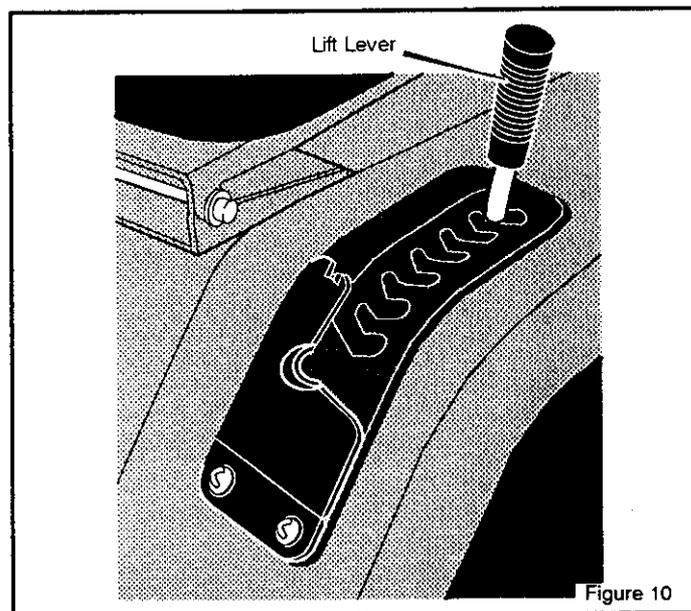

Figure 10
1. Move the **lift lever** forward to lower the mower housing and back to raise the mower housing (Figure 10).